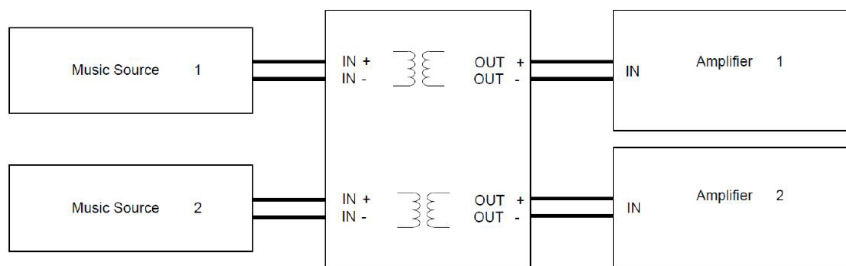

Figure 1 - Typical Use of ALIM for Background Music Isolation
- ✓ As an isolation and/or line balancing transformer (with optional volume control) for background music inputs connecting to the Local Inputs of EWIS Amplifiers (Refer to Fig.1 below.)